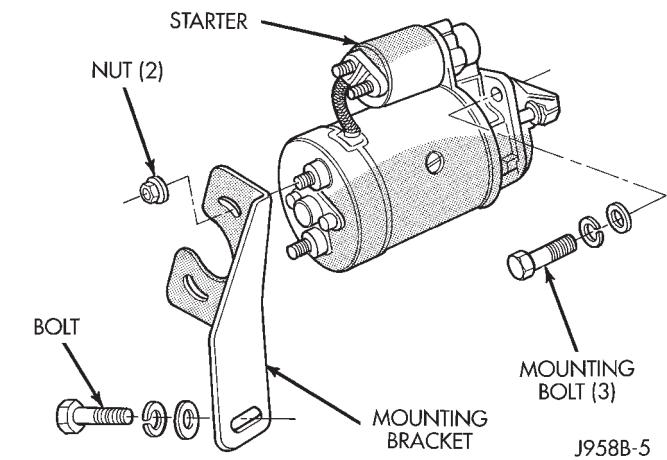

Fig. 1 Starter Mounting - 2.5L Diesel Engine
- (1) Disconnect and isolate the battery negative cable.
- (2) Raise and support the vehicle.
- (3) Remove the right front engine mount insulator and brackets. Refer to Group 9 - Engines for the procedures.
- (4) Remove the starter front support bracket (Fig. 1).